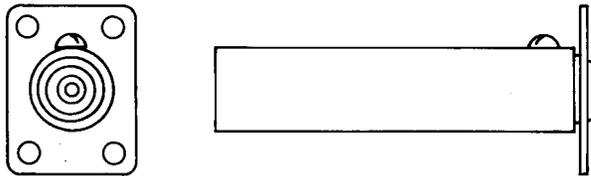

Fig. 9—478A Jack
2.04 478A: This coaxial-type jack (Fig. 9) is designed for use with the 358A and similar-type plugs. The test voltage for this jack is 2000 volts ac. The 478A jack is designed for a soldered wire connection to the inner contact terminal at the mounting end. This jack is not designed for a coaxial cable connection. This jack is used in the TD-2 Radio System.